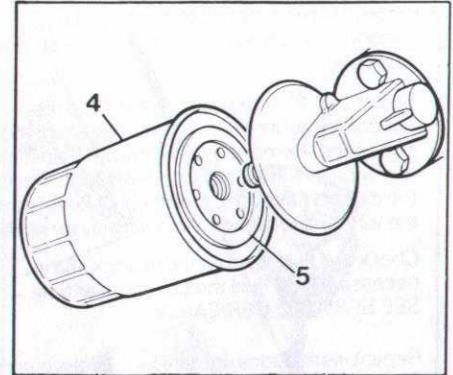

Fig. 2
**Oil filter replacement – Fig. 2**